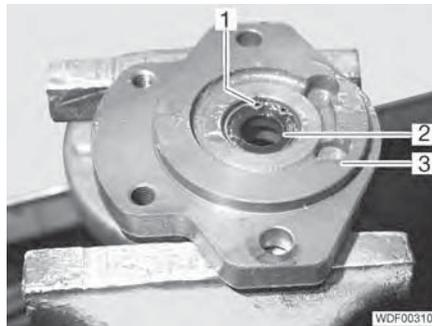

Fig. 152 Annular shaft seal
- Remove the locking ring (Fig. 152,1).
- Drive out the shaft seal (Fig. 152,2) outwards.
- Clean the flange (Fig. 152,3) thoroughly.